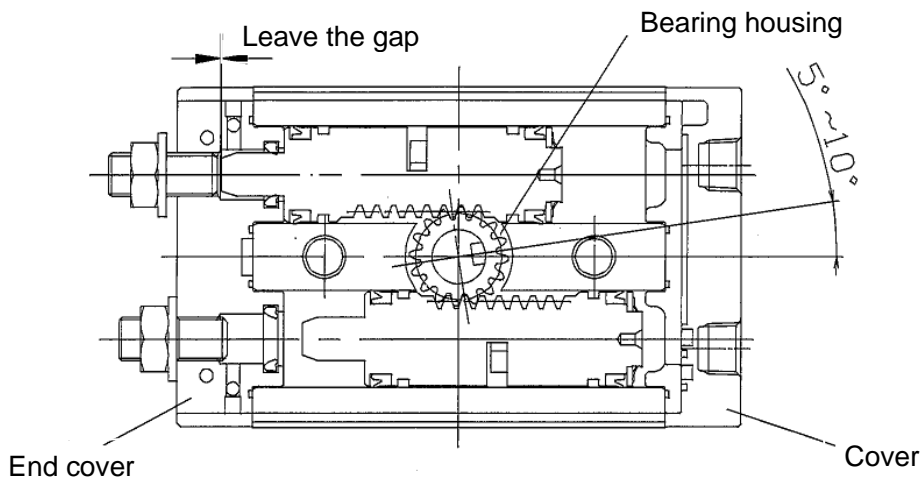

Fig.24
- (3) Mount the cover and the end cover, and push the piston Ass'y and the cover until they touch the end cover as in Fig.24 Adjust the hexagon socket head set screw (adjust bolt) so that the screw does not contact with the piston Ass'y.